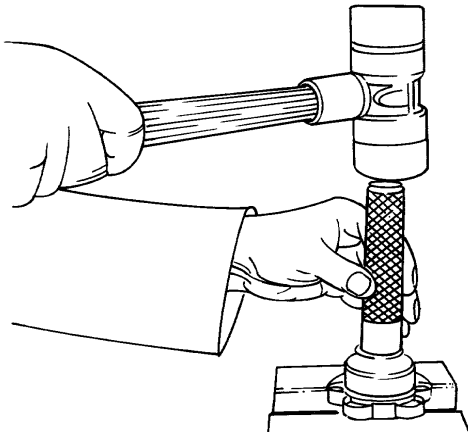

Figure 82 - Retainer Sealing Ring - Removal
- d. Remove the sealing ring from the sealing ring retainer using a suitable drift and a hammer (Fig 82).